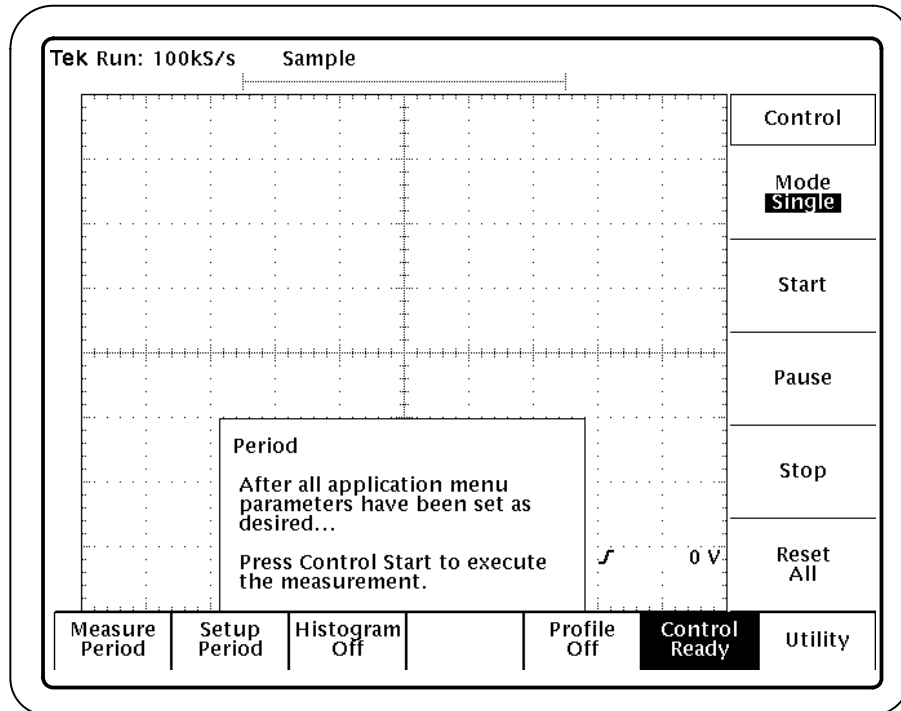

Figure 5: The Control menu
- Press Control (main). Figure 5 shows the Control menu.